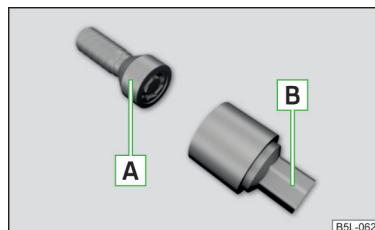

Fig. 273
The anti-theft wheel bolts protect wheels from being stolen. This can only be **loosened/tightened** with attachment **B** » Fig. 273.
- › Insert the wheel wrench onto the wheel bolt to the stop. Use the associated attachment for the anti-theft wheel bolts » Fig. 273 on page 223.